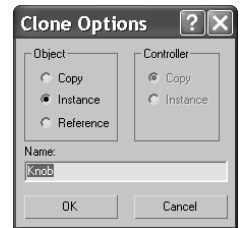

Figure 4.73
2. You'll need a few copies of the original knob, one for each drawer. Choose Edit → Clone (Figure 4.73). You are going to use the Instance command. An *instance* is a copy, but an instance is still connected to the original. If you edit the original or an instance, all of the instances change. Click OK to create an instance.